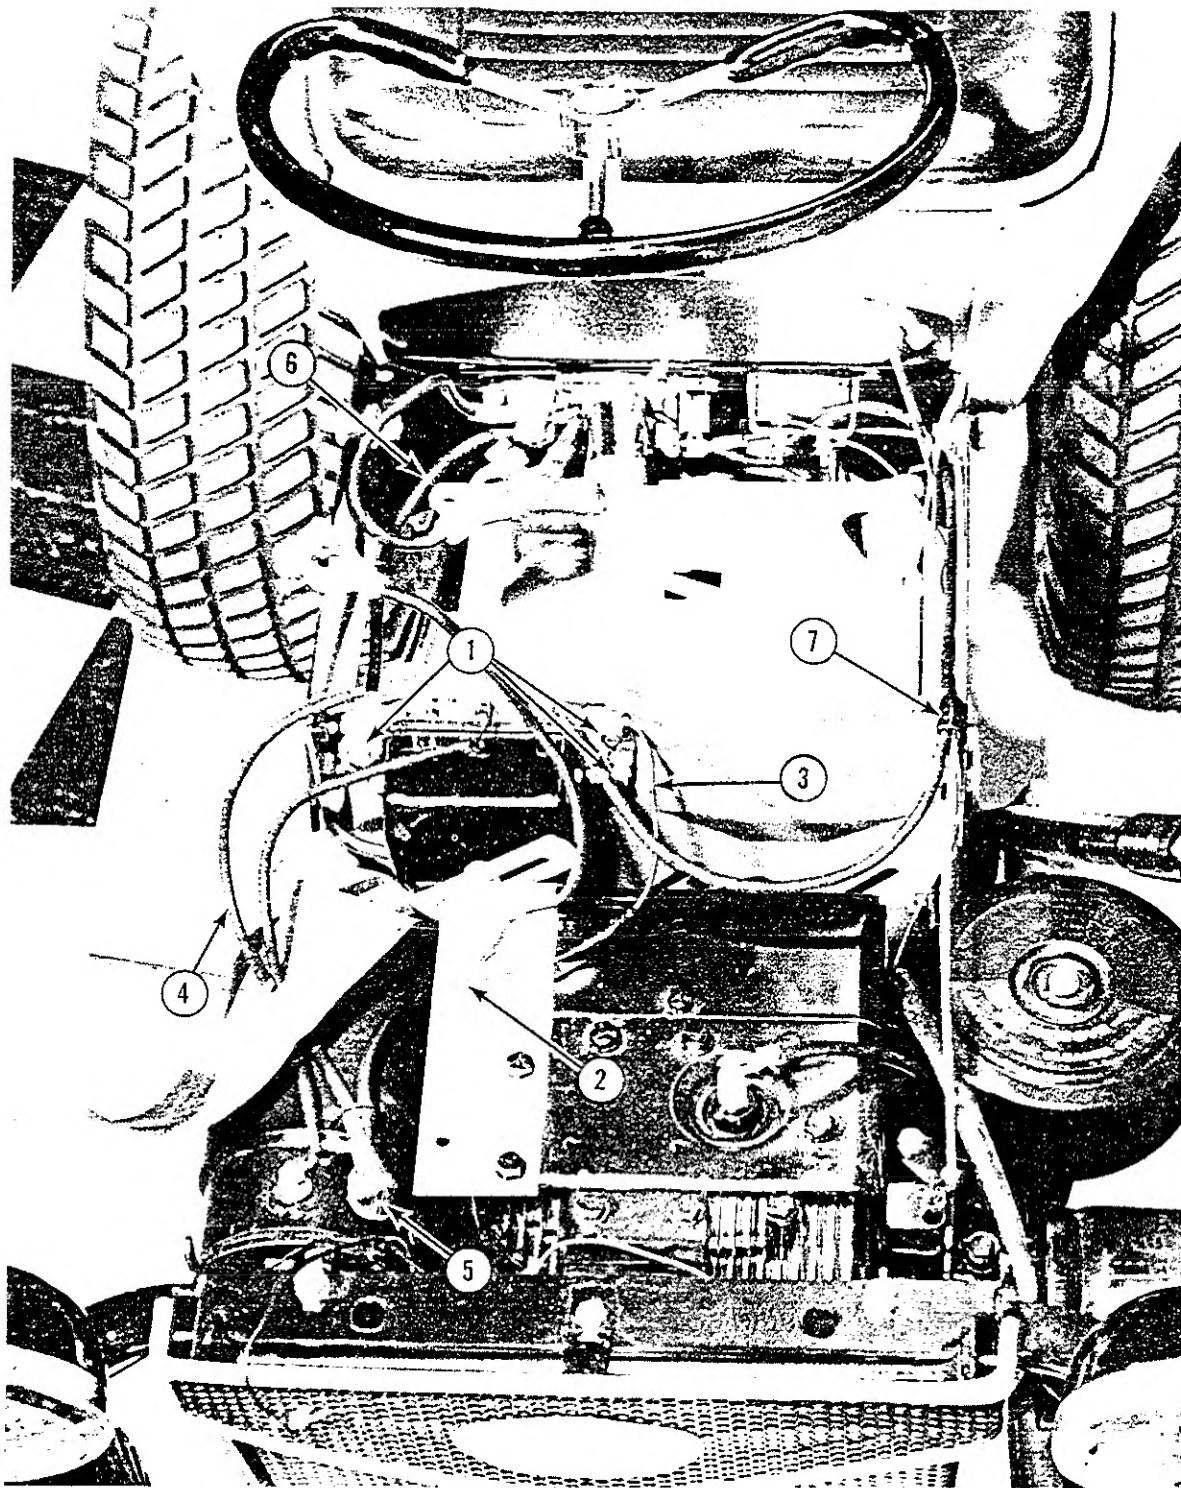

Fig. SG-4
Attach the voltage regulator to the front panel of the tank support assembly with three 1/4-20 x 3/4" screws, (1), Fig. SG-4.
Connect the small terminal end of the 13'' battery cable to one end of the 8'' plastic coated wire and attach both to the upper support bracket by means of the 1/4-20 x 5/8'' capscrow (2), Fig. SG-4. Attach the other end of the small 8'' wire to the attaching screw on the side of the voltage regulator, (3) Fig.-SG-4.
Attach one end of one 14 1/2'' fabric covered wire to the terminal post (F) on starter, then run through the hole in insulating paper. Attach the other end to the terminal (F) on the voltage regulator (4), Fig. SG-4.
Attach one end of the 27'' plastic coated wire and one end of other 14 1/2'' fabric covered wire to the terminal (A) on starter, (5), Fig. SG-4. Run the 14 1/2'' wire through the other hole in insulating paper, then attach the other end to the middle terminal (GEN) on the voltage regulator. Run the plastic coated wire underneath the regulator and along the side of the battery compartment to the starter button (6), Fig.-SG-4. Attach the wire to the bottom terminal of the starter button.
Attach 27'' fabric covered wire to the other ammeter terminal and run it along the left hand side panel, through the clip, (7) Fig. SG-4, to terminal (BAT) on voltage regulator.